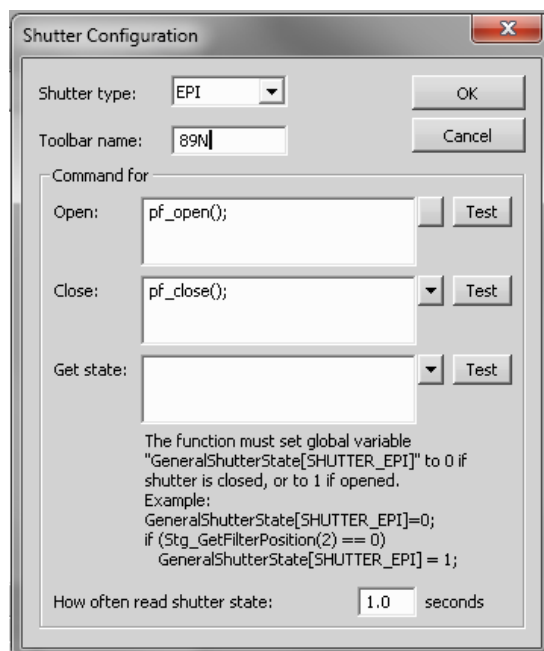

Figure 7
21. Configure the General Shutter as “Epi” type if this is your primary light source. If using this as a secondary source, you can use Aux 1 or Aux 2 device type. Configure the position boxes as follows, refer to figure 7 below if needed. The toolbar name can be anything, this will show up next to the shutter on the Elements program toolbar.